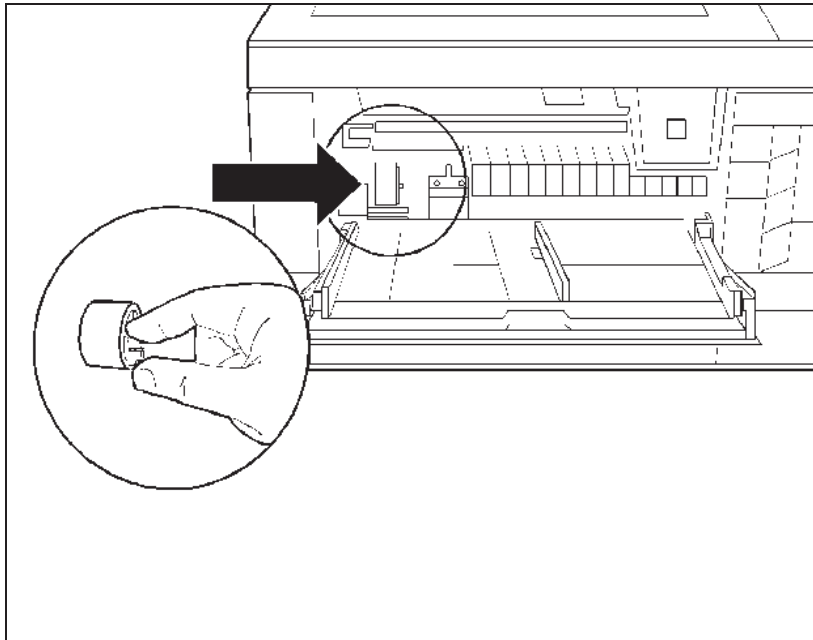
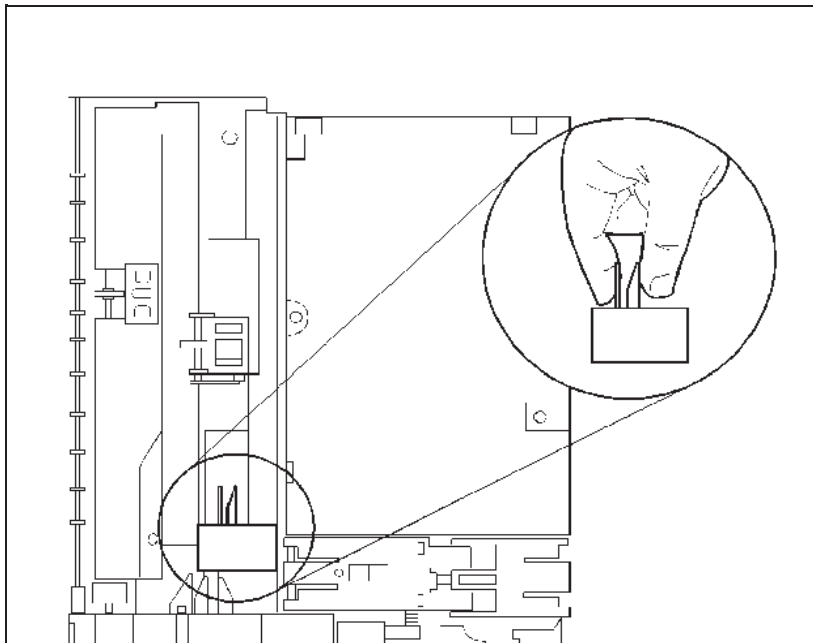
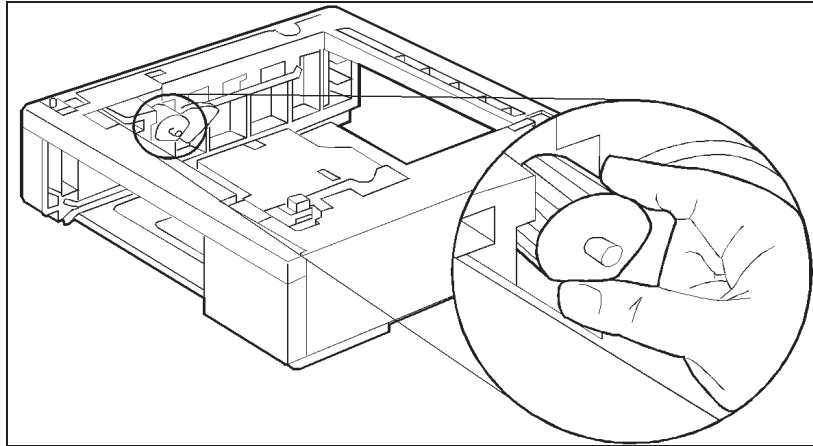

Figure 4-5 Removing the MP Tray (Tray 1) Pickup Roller
Figure 4-7 Removing the PC (Tray 2) Pickup Roller (printer is turned on its left side)
Figure 4-8 Removing the Lower Cassette Pickup Roller
Each paper source has a Paper Pickup Roller that should be replaced when paper no longer feeds reliably. The MP Tray (Tray 1) Paper Pickup Roller is shown in Figure 4-5. The PC tray (Tray 2) Pickup Roller is shown in Figure 4-7, the LC (Tray 3) Pickup Roller is shown in Figure 4-8.
- 3 Remove the roller by pinching the plastic retaining clip at the side of the roller and sliding it off its shaft (see Figure 4-5).
The PC Pickup Roller is underneath the printer (see Figure 4-7). To remove the Pickup Roller:
- 2 Press the retainers that hold the roller in place (see Figure 4-8).